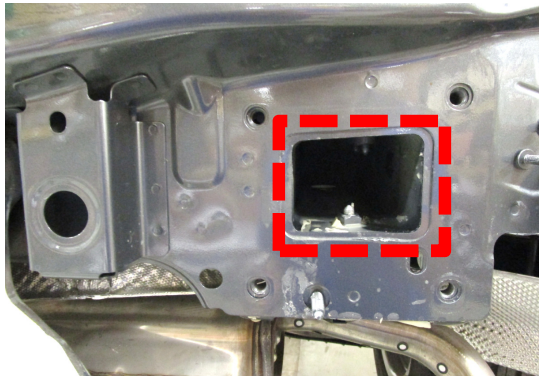
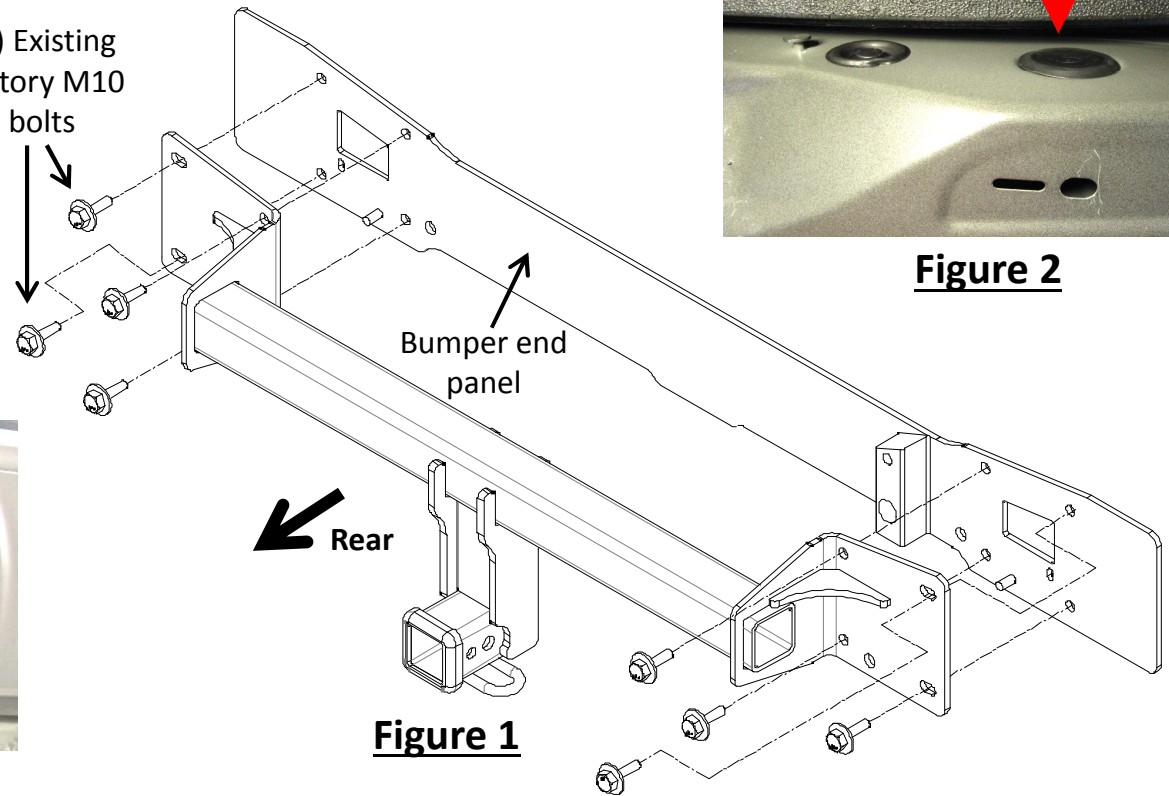

Figure 3
Figure 1
2. **Remove bumper beam** – Using 16 mm socket, remove (8) M10 factory bolts from bumper beam and cross bar above bumper beam. Return bumper beam and cross bar to owner.
3. **Install hitch** – Use silicone sealant to seal around the opening on the end panel both sides, see **Figure 3**. Raise the hitch into position and loosely install (8) existing factory M10 bolts to the hitch, see **Figure 1**.
2. Remove bumper beam – Using 16 mm socket, remove (8) M10 factory bolts from bumper beam and cross bar above bumper beam. Return bumper beam and cross bar to owner.
3. Install hitch –Use silicone sealant to seal around the opening on the end panel both sides, see **Figure 3**. Raise the hitch into position and loosely install (8) existing factory M10 bolts to the hitch and end panel, see **Figure 1**.